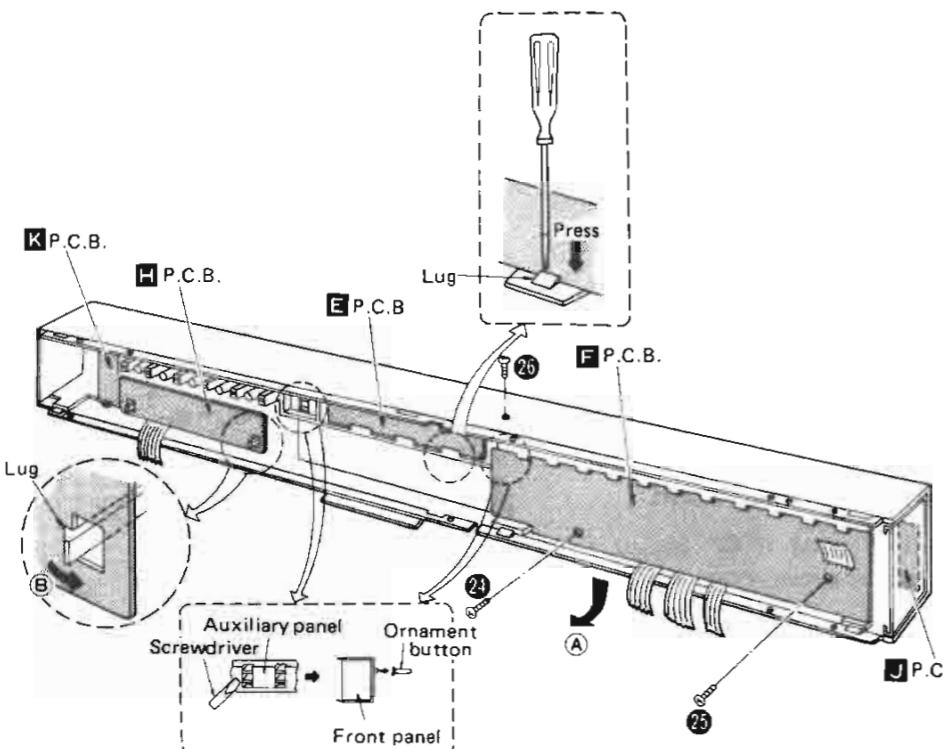

Fig. 4
2. Turn over the front panel as shown in Fig. 4.
3. Remove the 2 setscrews (㉔, ㉕ in Fig. 4) of the printed circuit board. Remove the board in the direction of the arrow (A).
Remove the printed circuit board by pressing the lugs (3 portions) with a screwdriver. (Fig. 4)
Remove the printed circuit board by shifting the lugs (2 portions) in the direction of the arrow (B). (Fig. 4)
Remove the printed circuit board in the same way as for **H** Printed circuit board. (Fig. 4)
3. Push the 2 ornament buttons with a screwdriver to remove them from the auxiliary panel (See Fig. 4).
4. Remove the setscrew (⑥ in Fig. 4) of auxiliary panel.